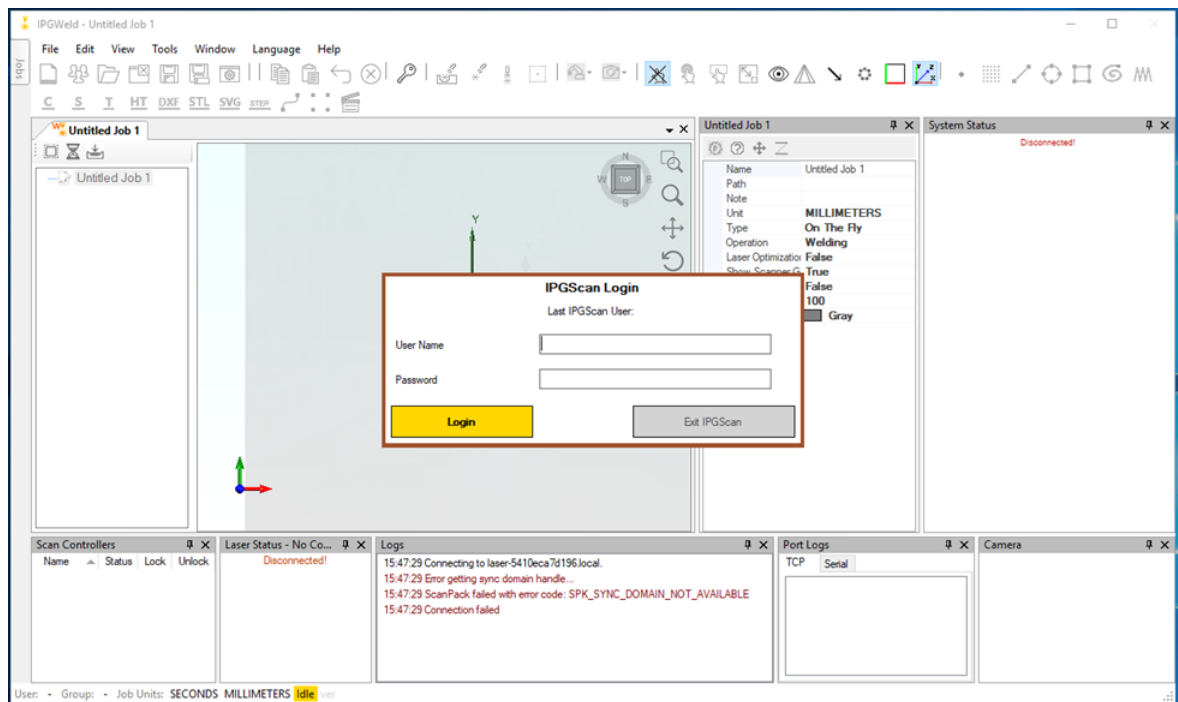

Figure 18: IPGScan Login Window
3. Select IPGScan. The IPGScan Login window will appear, as shown in Figure 18.